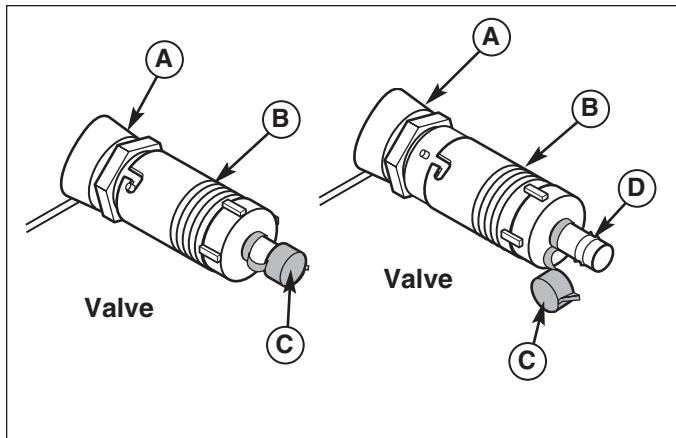

Figure 24. Oil Drain Valve
3. Wipe oil drain valve (B, Figure 24) and cover (C) with paper towel or rag.
4. Rotate the drain valve (B) counter clockwise and pull out 1/4" (6.35 mm) for engine oil to drain. Allow ample time for complete drainage.
5. After all the oil has drained, close the oil drain valve (B) by pushing in and rotating clockwise to close.
6. Wipe the nipple (D) with paper towel or rag. Install the cover (C) over nipple (D).